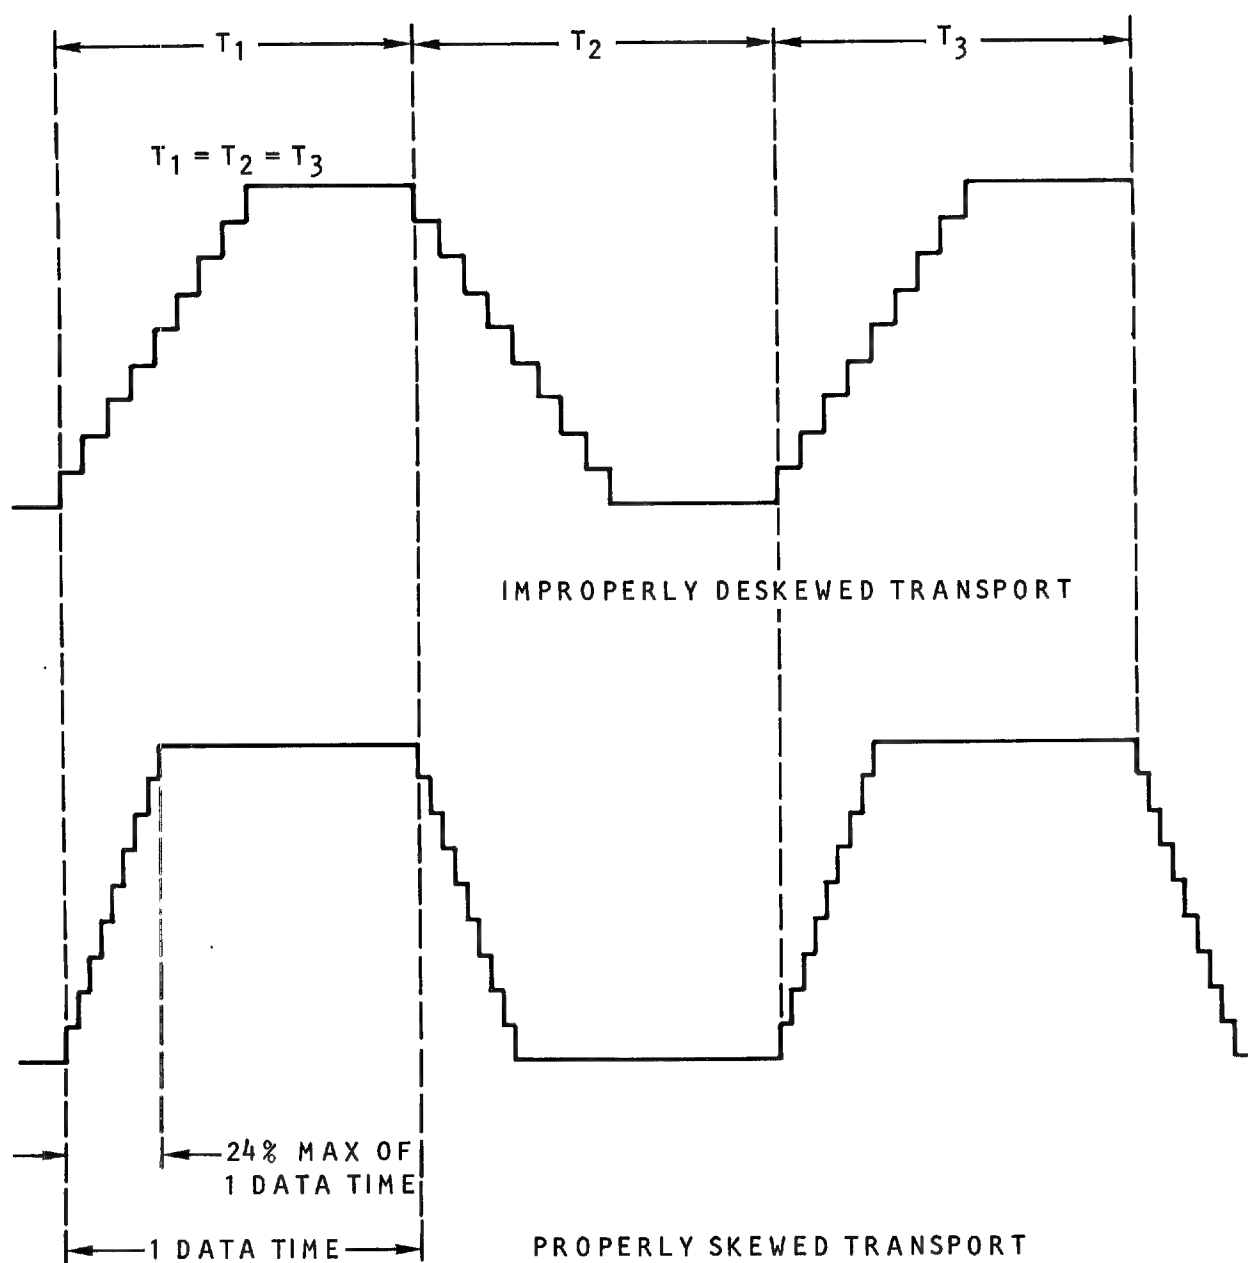

Figure 4-33. Skew Adjustment Waveform
- g. Adjust azimuth screw (1, Figure 4-10) so that outputs of all tracks, as monitored at test point on skew monitor, fall within 24% or less of the byte-to-byte period. (See Figure 4-33)